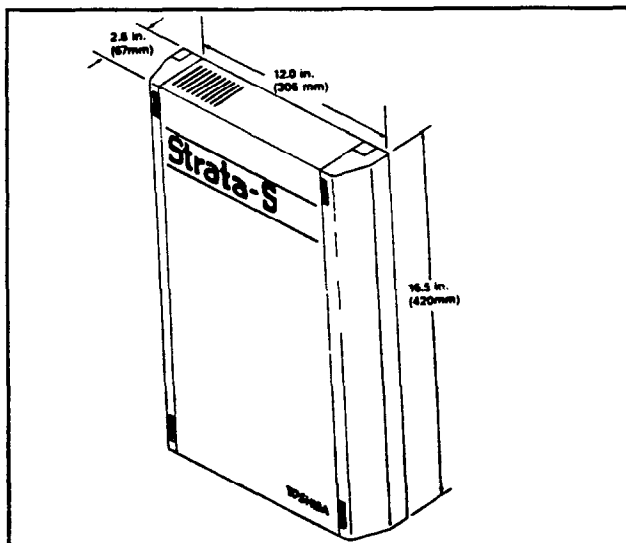

FIGURE 1—MKSU (Dimensions)
02.01 Designed for wall mounting, the **Strata S** MKSU is housed in a single plastic cabinet (Figure 1) with the following dimensions: